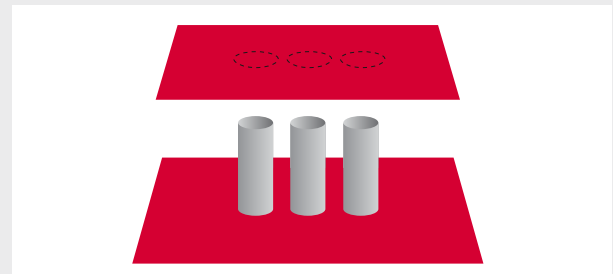

Figure 7: Cut a patch large enough to overlap 12" in all directions and slide over penetrations. (Make openings as tight as possible.)
1. Cut a patch large enough to overlap 12" in all directions (Fig. 7) of penetrations.